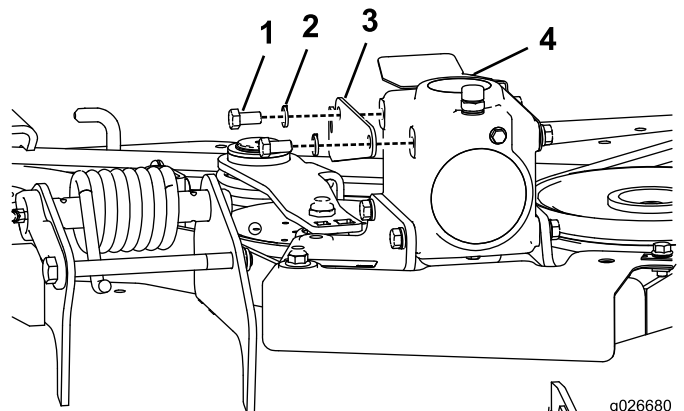

Figure 4
2. Position the pivot bracket on the gear box as shown in Figure 4.